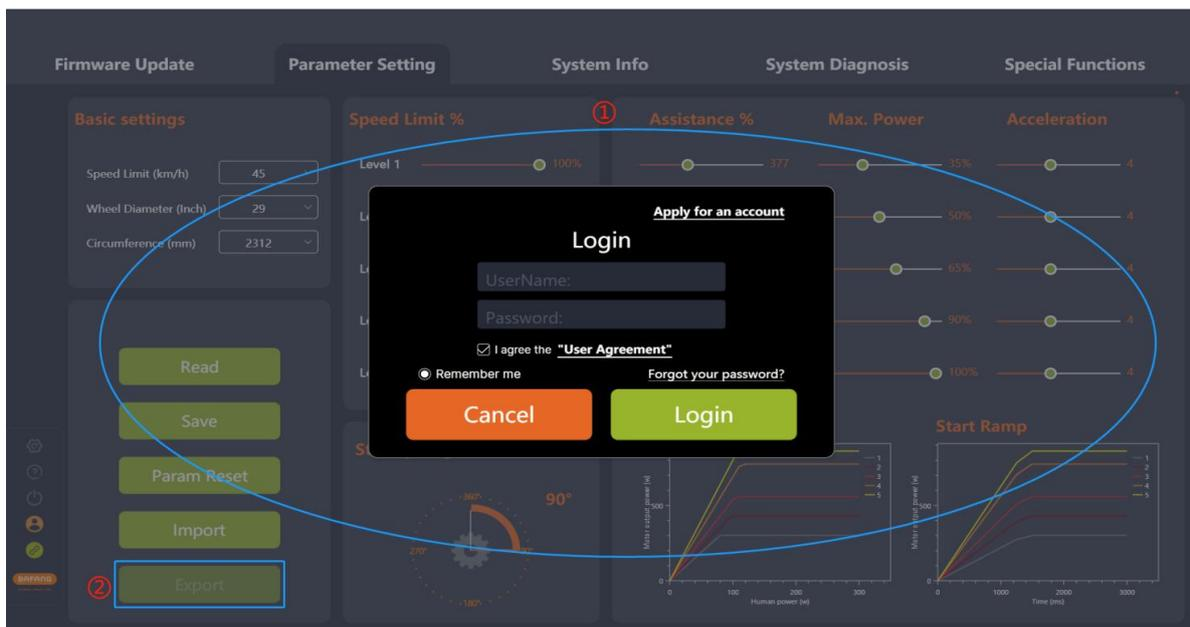

Fig. 5-19 Export
- (1) Set the parameters.
- (2) Click "Export". If you are not logged in, the "Login" interface will pop up, prompting you to log in (Fig.5-19).